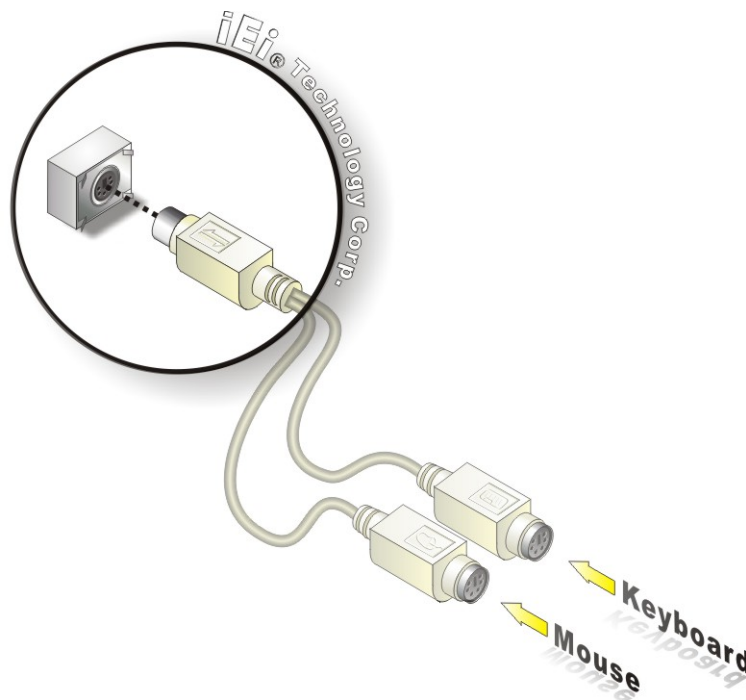

Figure 4-13: PS/2 Keyboard/Mouse Connector
Step 2: Insert the keyboard/mouse connector. Insert the PS/2 connector on the end of the PS/2 y-cable into the external PS/2 connector. See Figure 4-13.